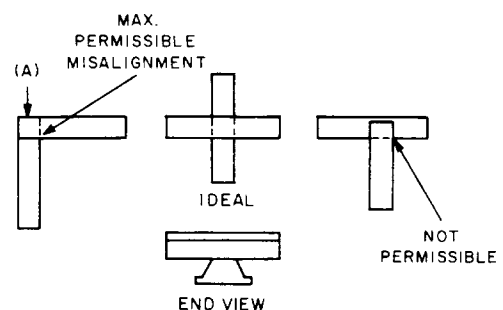

Fig. 6—Alignment Of Standard Bay-Type Contacts
- (b) **Bar-Type Contacts:** Fig. 6(A)—The contacts shall line up so the width of the contact surface of each contact bar falls wholly within the length of its mating bar.
(a) Fig. 6(B)—Except as specified below, the separation between any pair of contacts normally open or between any pair of contacts that are opened when the key is operated shall be: